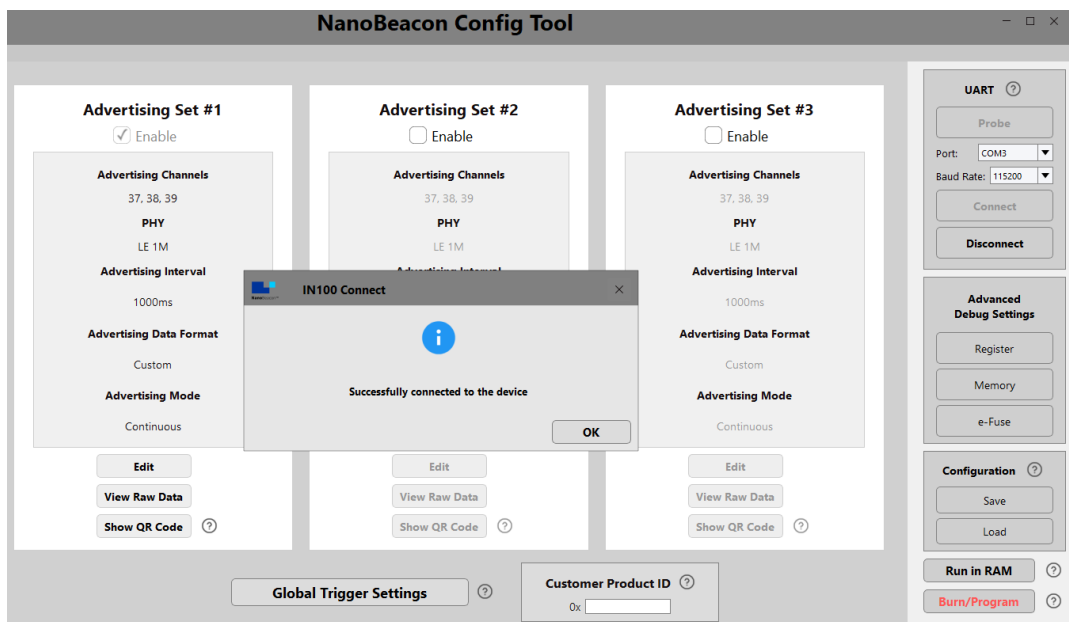

Figure 57 : UART communication status report dialog
- Open NanoBeacon™ config tool on the PC and click the probe button in the UART area on the right side of the interface to get a list of available serial ports. Then select the corresponding port number in the Port drop-down box. Baud rate Baud uses the default 115200. Then click the Connect button to establish a connection to the device. As shown in the figure below, whether the connection is successful or failed, there will be a pop-up box, as shown in Figure 57.